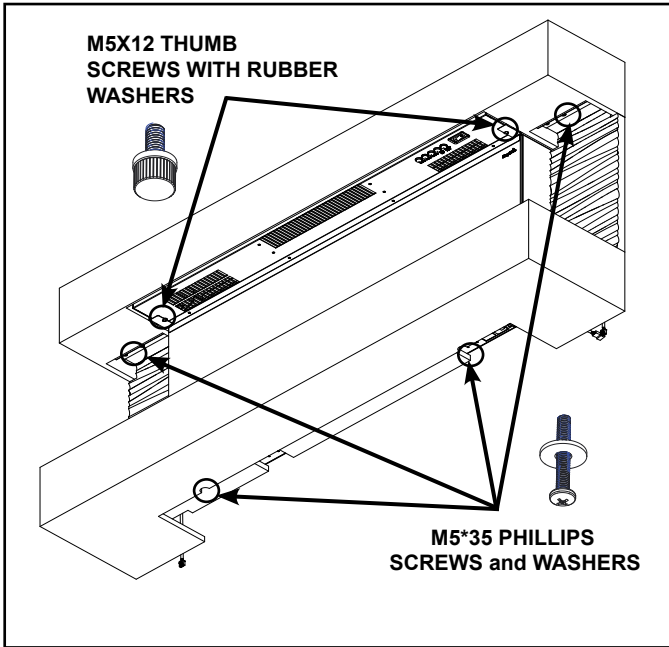

Figure 10
- Fasten the bottom mantel section to the appliance with two (2) M5\*35 Phillips screws. See Figure 10.
7. Secure the top mantel to the appliance using two (2) M5X12 thumb screws with rubber washers. See Figure 10.
8. Secure the side panels using two (2) provided M5\*35 screws.